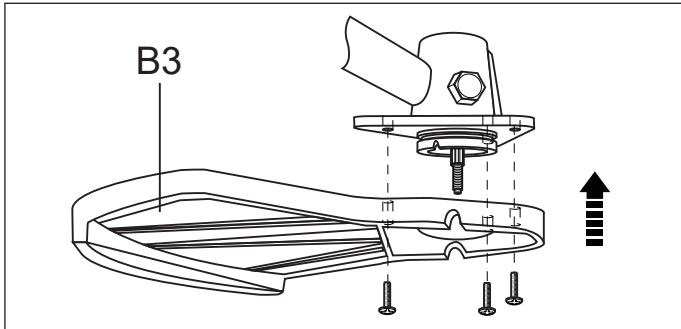

Fig. 4c
- e). Place the cutting guard (B3) onto the support and fix it with the screws by using the Hex key 4 mm (F3). Pay attention to the alignment of the cutting guard. (See Fig. 4c)